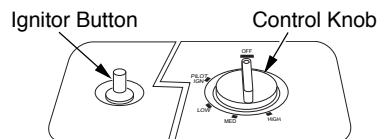

Figure 19 - Control Knob In The OFF Position
4. Wait five (5) minutes to clear out any gas. Then smell for gas around heater and near the floor. If you smell gas, **STOP!** Follow "B" in the safety information above. If you don't smell gas, go to the next step.
5. Press in control knob and turn counterclockwise ↺ to the PILOT position. Keep control knob pressed in for five (5) seconds (see Figure 19).